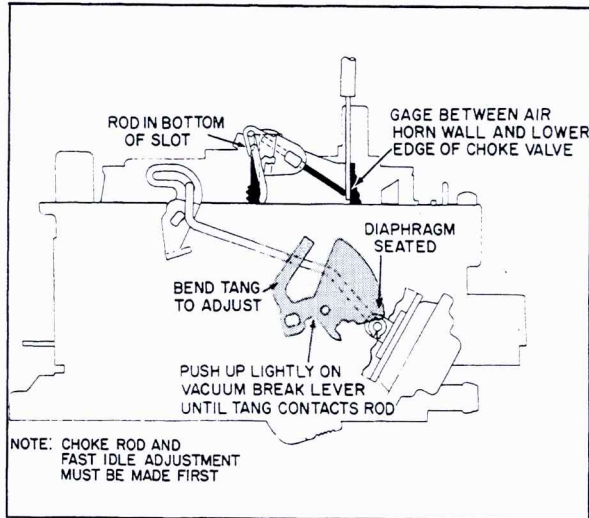

Fig. 6-81 Vacuum Break Adjustment
84. Vacuum Break Adjustment (Fig. 6-81)
4. Bend vacuum lever tang, Fig. 6-81, to adjust.